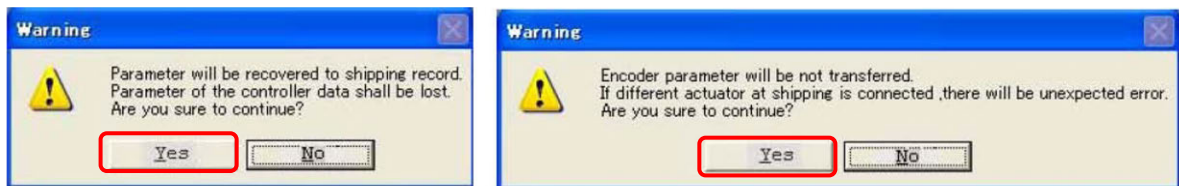

Fig. 8.34 Warning Dialog
- (3) Selecting the displayed menu “Parameter of Shipping” displayed in (2) will display a dialog in Fig. 8.34.